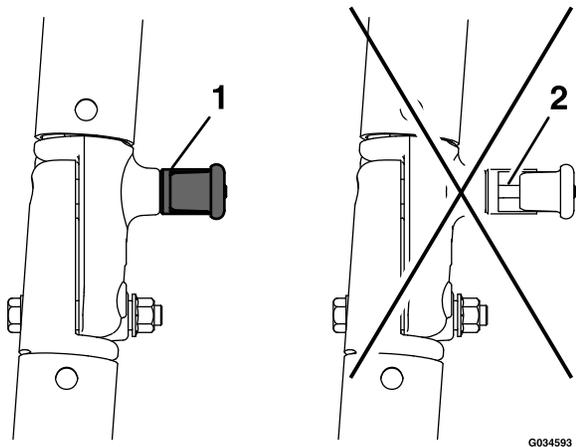

Figure 12
5. Make sure the knobs are fully engaged with the roll bar in the raised position. The upper hoop of the roll bar may need to be pushed forward or pulled rearward to get both knobs fully engaged (see Figure 12).
When the motion control levers are positioned fully outward (apart) in the T-slot, the drive system is in the neutral lock position (Figure 12).